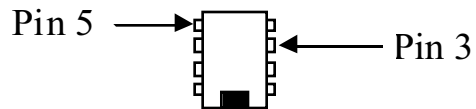

Figure 19
- Touch the voltmeter's (+) lead to **pin 3** of U5 (see Figure 19). **Note:** There will be a DC voltage on this pin during transmit, even though the KAT100 is not connected to a power supply.
- Touch the DMM's (+) lead to **pin 5** of U5 (see Figure 19).
- Touch the voltmeter's (+) lead to **pin 3** of U5 (Figure 19).